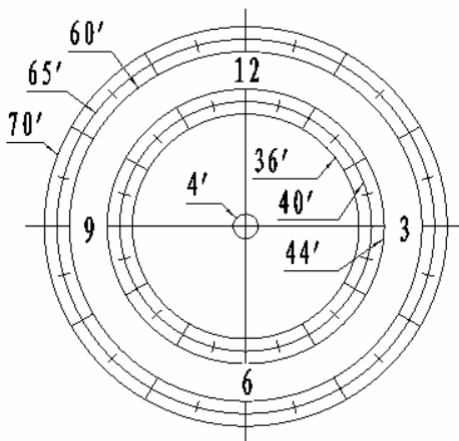
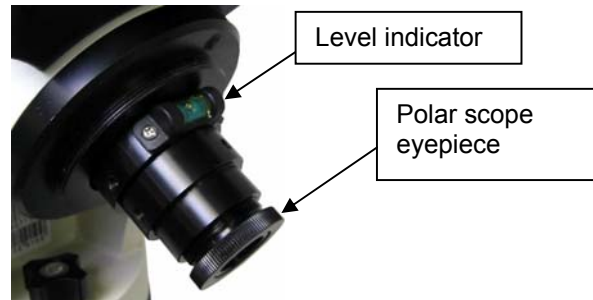

Figure 13. Polar Scope Dial
Figure 14. Polar scope with bubble level indicator
As indicated in Figure 13, the Polar Scope Dial has been divided into 12 hours along the angular direction with half-hour ticks. There are 2 groups, 6 concentric circles marked from 36' to 44' and 60' to 70', respectively. The 36' to 44' concentric circles are used for polar alignment in northern hemisphere using Polaris. While the 60' to 70' circles are used for polar alignment in southern hemisphere using Sigma Octantis.
During initial setup of the iEQ mount, it is likely that the viewing hole on the DEC axis of the polar scope may be blocked by the DEC axle. The Polar Scope Dial in the polar scope may not be set at the normal clock position with 12 located at the top, as shown in Figure 13. Before doing the Quick Polar Axis Alignment, complete the following steps:
- (1) Take off both the Polar Axis Cover and the Polar Scope Cover from the mount.
- (2) Remove the protection tape on the threaded hole located on the Polar Scope. Then thread the dark field illuminating LED end into the threaded hole and plug the other end into the Reticule socket located on the R.A. unit. The illumination intensity can be adjusted using the hand controller (HC) via the “**Set Eyepiece Light**” function under the “**Set Up Controller**” menu.
- (3) Use the ▲ or ▼ button to turn the DEC axle to unblock the Polar Scope view.
- (4) Adjust polar scope eyepiece shown in Figure 14 to bring the polar scope dial in focus.
- (5) To rotate the Polar Scope to align the 12 position of the dial on the top, as shown in Figure 13, press the ◀ or ▶ button on the hand controller, (press 9 button to change the rotation speed to MAX). If your Polar Scope is equipped with a bubble level indicator, as shown in Figure 14, simply make sure the bubble is in the middle.